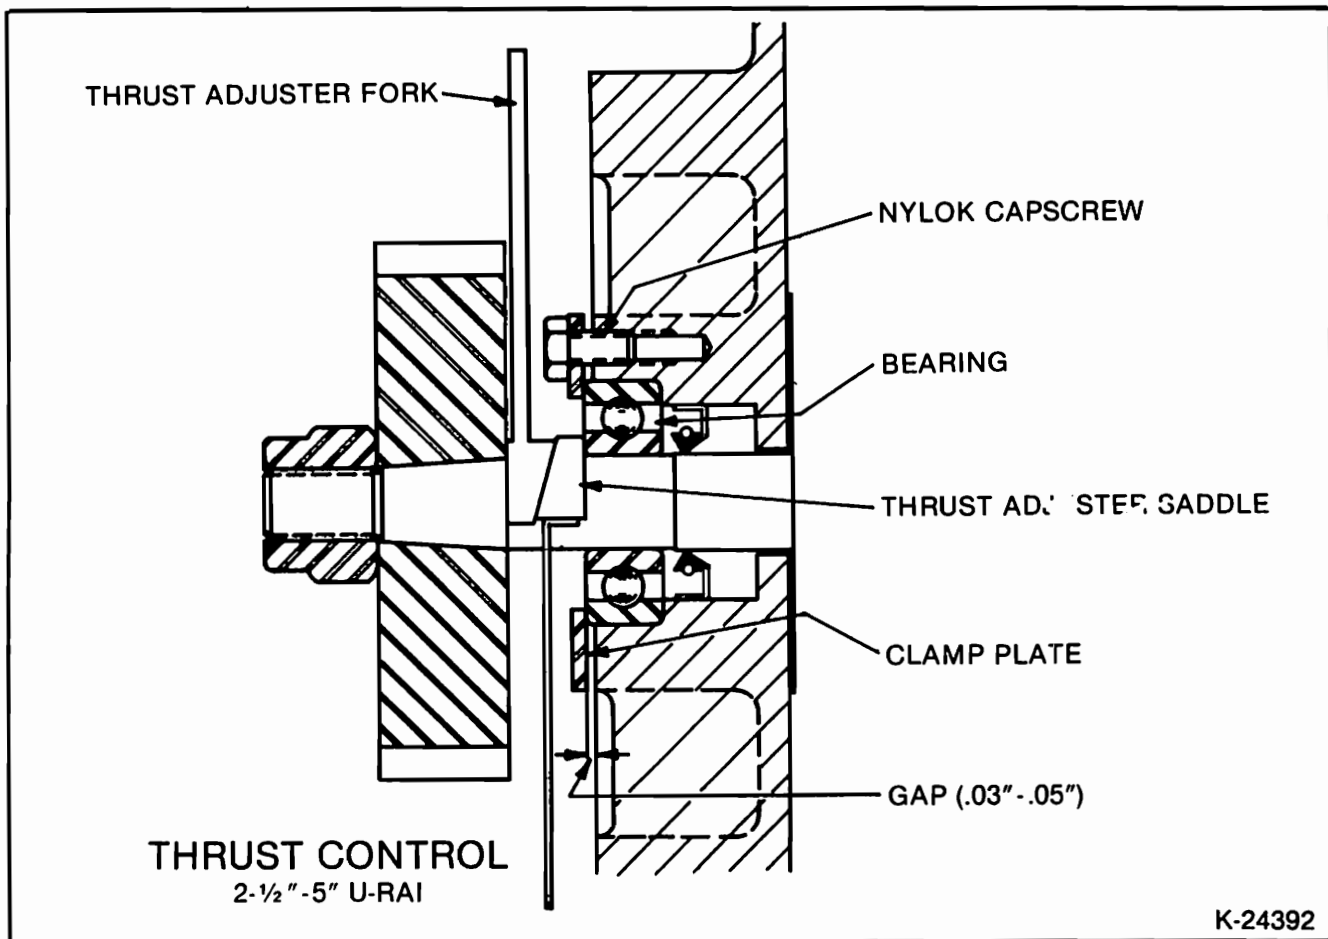

Figure 6 — Thrust Setting, 2 1/2" - 5" Universal RAI
to Fig. 6 for installation of tools. The flat side of the saddle rests against the bearing inner race and the flat side of the fork rests against the back side of the gear. Install a shim, with thickness equal to gear end clearance (Table 6), between the impeller and the gear end headplates. Tap on top of the fork until the shim becomes snug. Remove the shim and check end clearances. To increase gear end clearance, tap on the end of the gear end shaft with a soft metal mallet. On 6" units set end clearances by turning capscrews (31) evenly in or out.
16. Install drive end cover (5) after packing bearing cavities with suitable grease. Replace drive shaft seal. Lip must point toward (33) the bearing. Exercise care not to damage the lip as it passes over shaft keyway.
17. Install gasket item (7). Install the gear house after cleaning out the inside. Tighten gear box cap screws (23) evenly. Fill with correct grade of oil until oil flows out through oil level hole. Grease drive and bearings. (See Lubrication.)